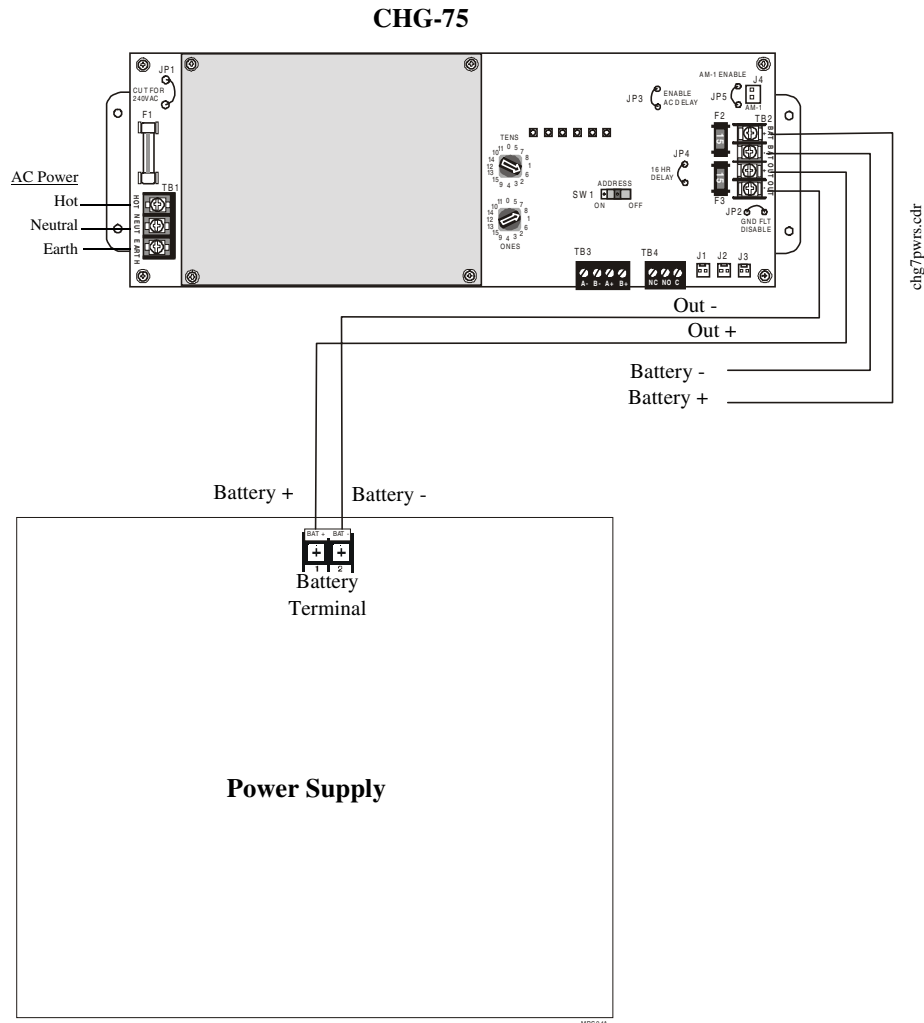

Figure 2.12 Typical Charger Wiring to Single Load
The CHG-75 is designed to provide additional charging capability to an existing FACP power supply. The charger can be connected to a single power supply as illustrated in Figure 2.12.
1. Connect the Battery (+) and Battery (-) terminals of the power supply to the CHG-75 Output Circuit TB2, Terminal 3 (Out +) and Terminal 4 (Out -) as illustrated in Figure 2.12